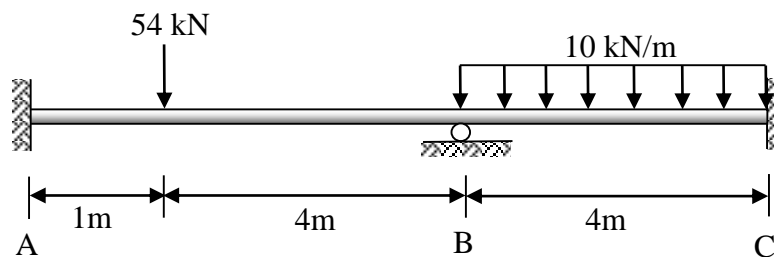

Figure A1(a) / Rajah A1(a)
- (a) **Figure A1(a)** show a continuous beam is subjected to a point load and distributed load. Calculate the internal moment at support A, B and C by using the Slope Deflection Method.